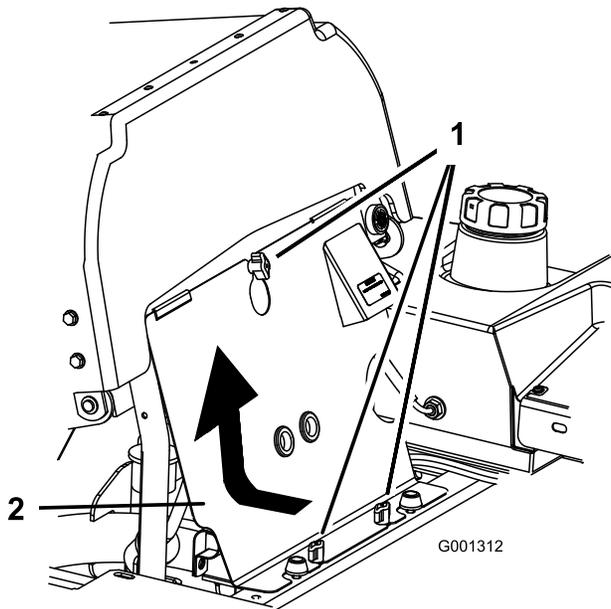

Figure 88
3. Loosen the front engine panel knobs and remove the panel (Figure 88).